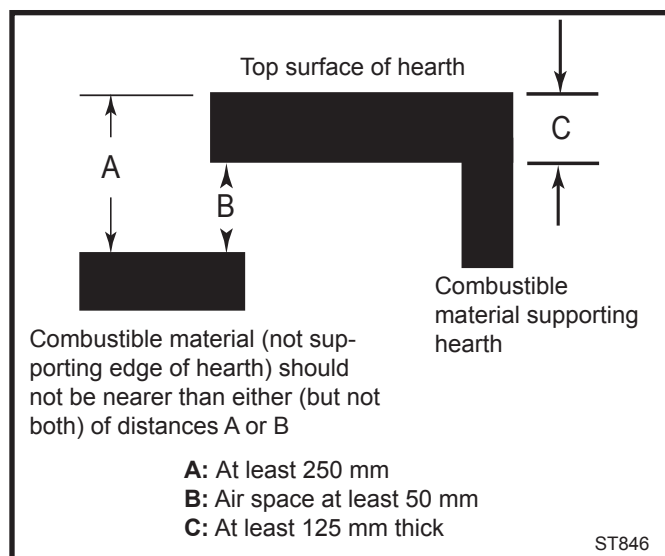

Fig. 13 Hearth construction.
- there is an air space of at least 50 mm between the material and the underside of the hearth, or there is a distance of at least 250 mm between the material and the top of the hearth. (Fig. 13)
Many fireplaces do not satisfy the "completely noncombustible" requirement because the brick or concrete hearth in front of the fireplace opening usually is supported by heavy wooden framing as in Figure 13. Because heat passes readily through brick or concrete, it can easily pass through to the wood. As a result, such fireplace hearths are considered a combustible floor. **You may not install a heater on a combustible hearth without legs. Standard leg installations must include the bottom heat shield.** The floor protector must also meet standard requirements for freestanding installations.